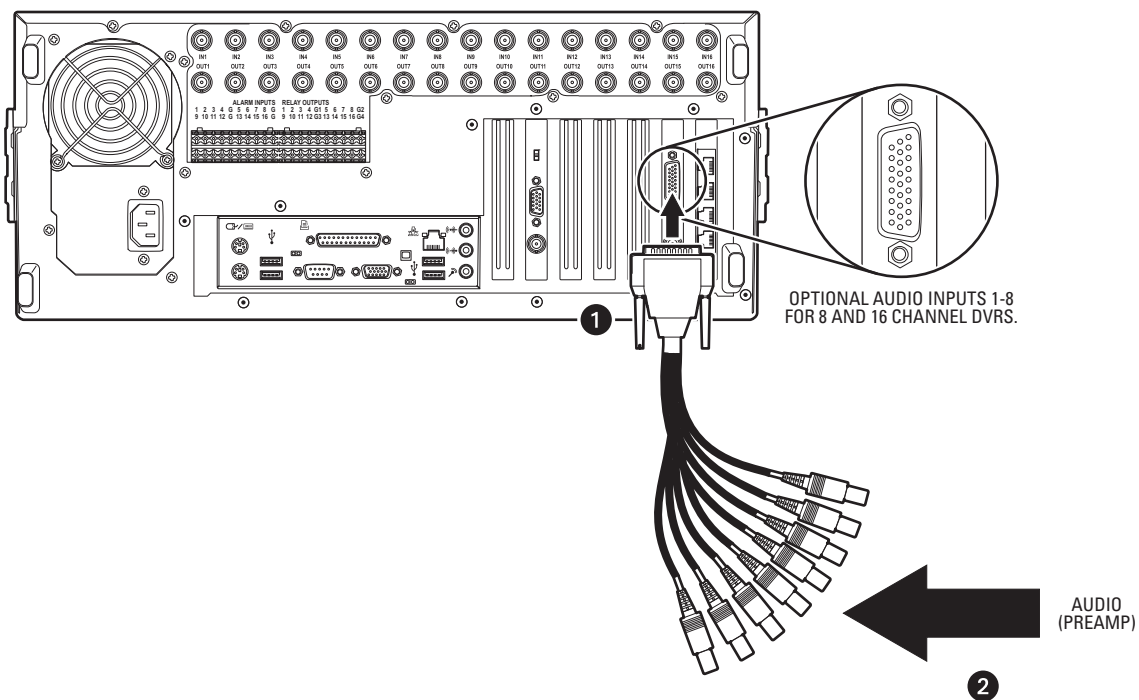

Figure 61. Audio Connector Installation
1. Connect the 26-pin audio breakout connector to the 26-pin Sub-D socket on the capture card to provide 8 or 16 individual audio inputs. Refer to Figure 61.